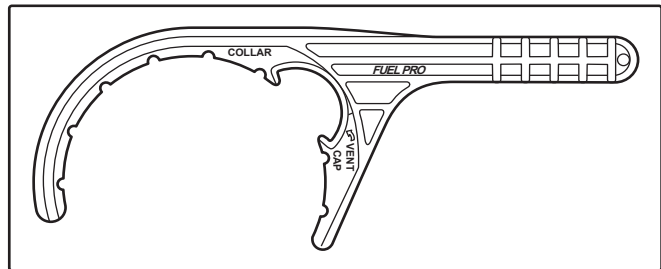
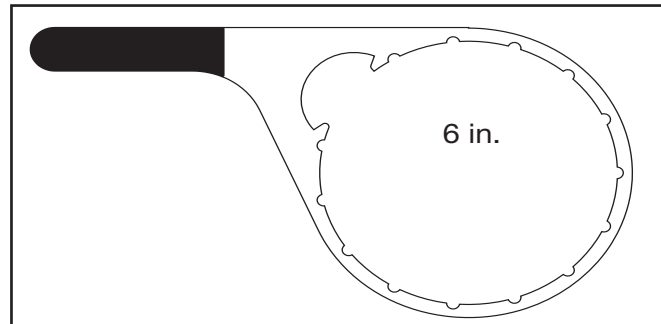

Figure 7 - Composite Collar Wrench
Figure 8 - Metal Collar Wrench
Step 3 - Using the Collar Wrench (part number 3944451 S (composite) Figure 7, 3944448 S (metal) Figure 8, or SP1076 for EXT series), remove the clear cover from the fuel processor by removing the collar. Discard the o-ring from the base of the cover. (A new o-ring seal is supplied with the new filter.) Gasket color is green and **MUST** be changed with every filter change. Remove the filter element from the Fuel Pro by pulling upward and twisting slightly. Be sure the sealing grommet is removed from the center stud.